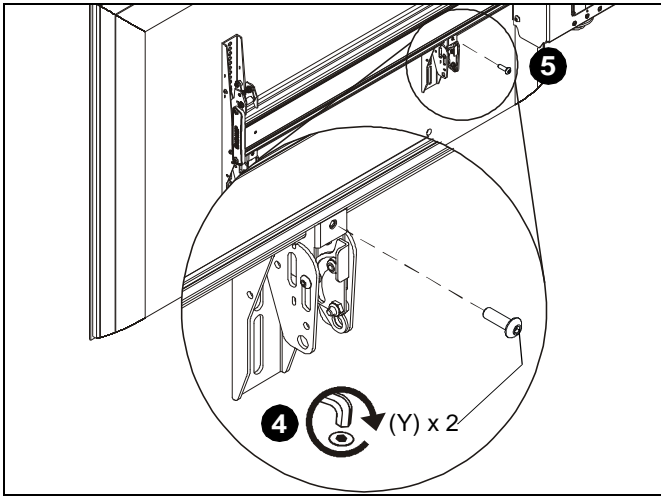

Figure 10
4. Fasten bracket against ceiling mount extrusion using one 10-24 x 5/8" button head cap screw (Y). (See Figure 10)